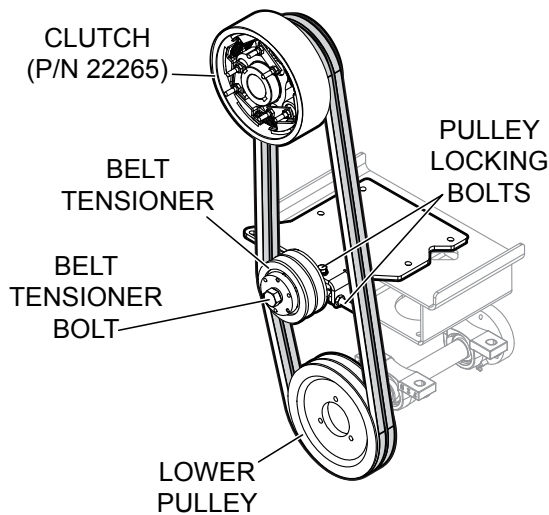

Figure 18. Belt Installation
- With belts placed over upper clutch pulley, walk belts onto lower pulley and belt tensioner pulley grooves. See Figure 18.
- Tighten belts with tensioner bolt (Figure 18).